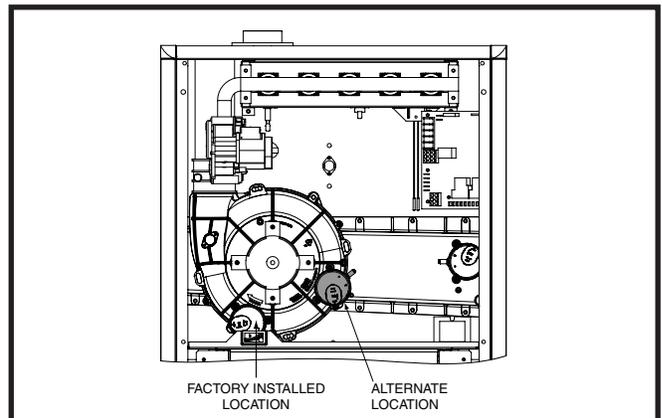

Figure 24. Alternate Pressure Switch Location
4. Remove the pressure switch from the mounts on the inducer housing and relocate it to the other set of mounts 90° from previous location. See Figure 24.